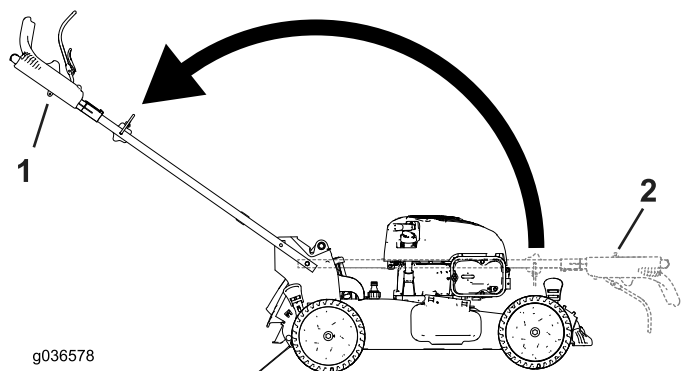

Figure 7
3. Unfold the handle to the operating position by rotating it rearward (Figure 7).